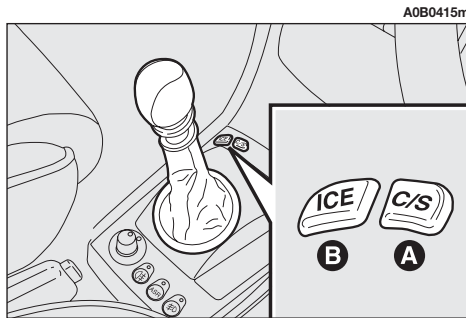

fig. 20
**Fig. 20** shows the position of buttons **A (C/S)** and **B (ICE)** for selecting the gear-box operating mode.